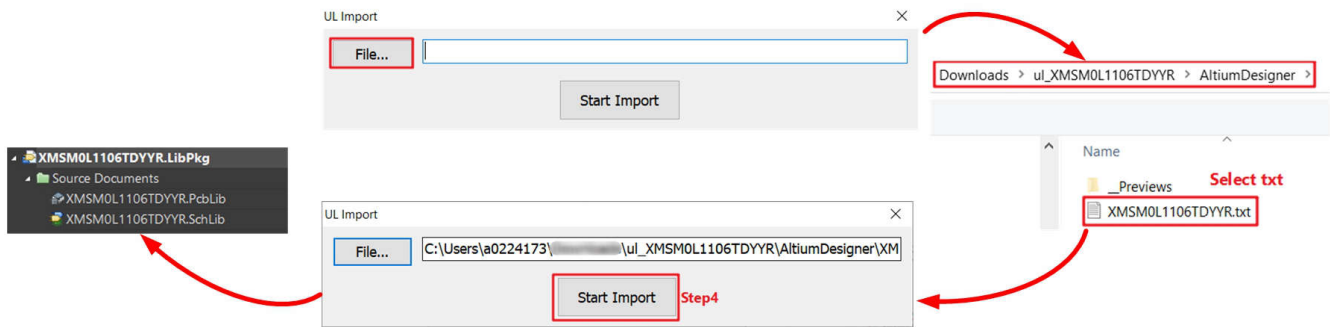

Figure 8-15. Generate Library
5. Generate the PCB library and schematic library as shown in Figure 8-15.